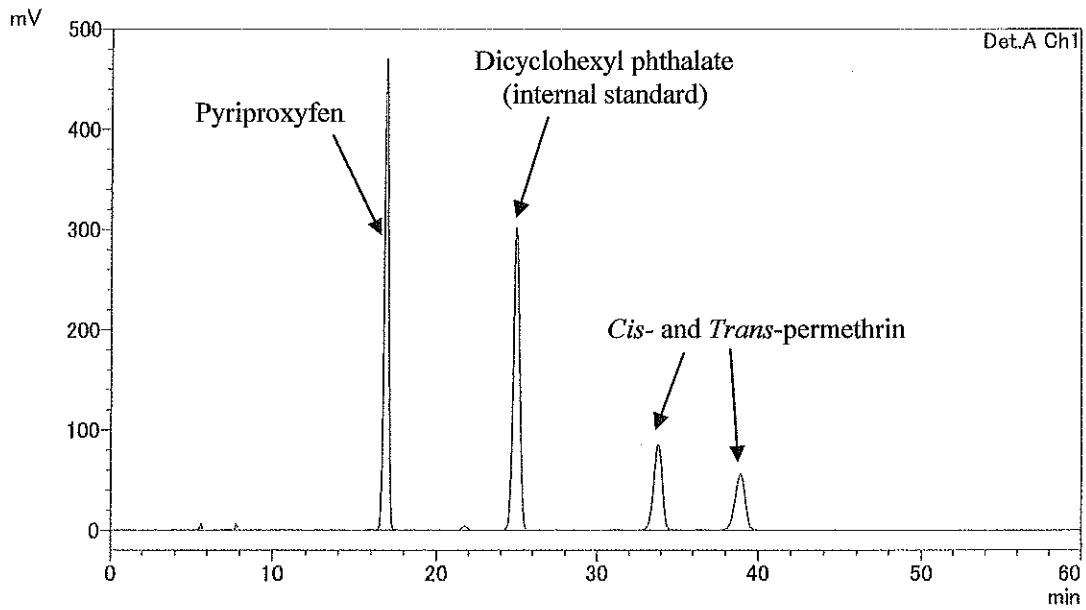

Fig. 1 Chromatogram of permethrin/pyriproxyfen LN
**2.1 HPLC.** Use the HPLC method below. The relative retention time of pyriproxyfen with respect to the internal standard for the sample solution should not deviate by more than 2% from that for the calibration solution (Fig. 1).